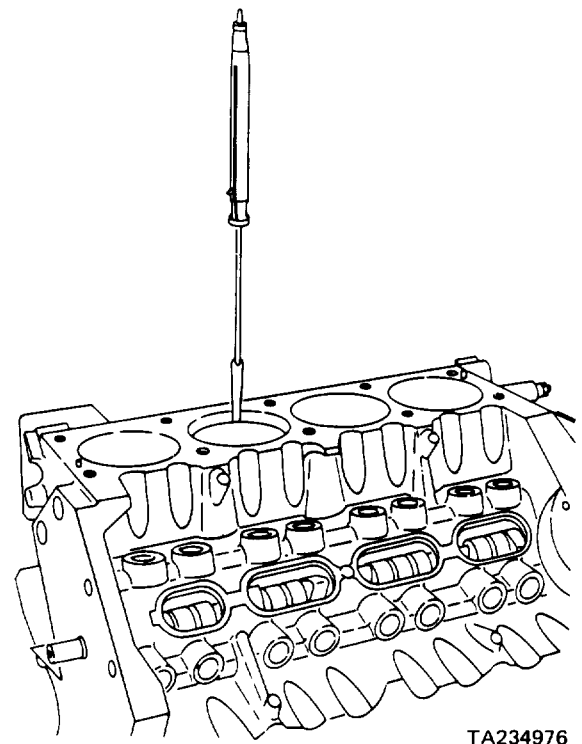

Figure 11-11. Measuring Piston Diameter.
- (9) Remove the tool from the piston.
d. *Fitting Pistons.* The piston and cylinder wall must be clean and dry. Specified clearances between the piston and the cylinder wall are 0.0005 to 0.0015 inch. Measure the piston clearance at the top of the skirt at a 90 degree angle to the piston pin axis (figure 11-11).